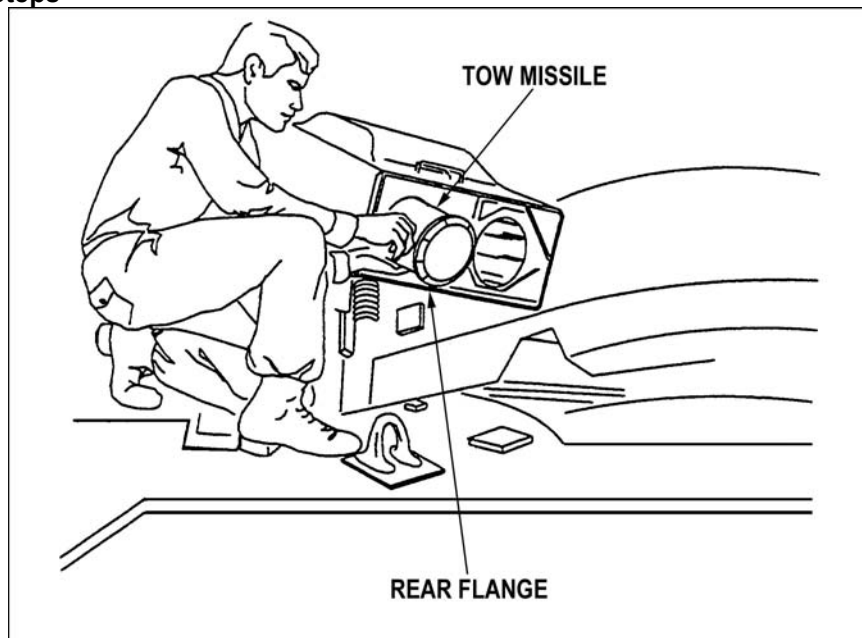

Figure 6. TOW missile rear flange.
- (1) Push and hold lock latch on loading handle.
- (2) Pull loading handle down and release lock latch.
- q. Remove misfired TOW missile from TOW launcher (Figure 6).